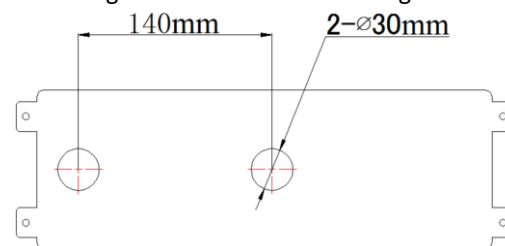

Figure 2 Mounting Hole Illustration
1. Tape the template to the duct housing and drill (or punch) the mounting holes at the desired mounting location as indicated in Figure 2.